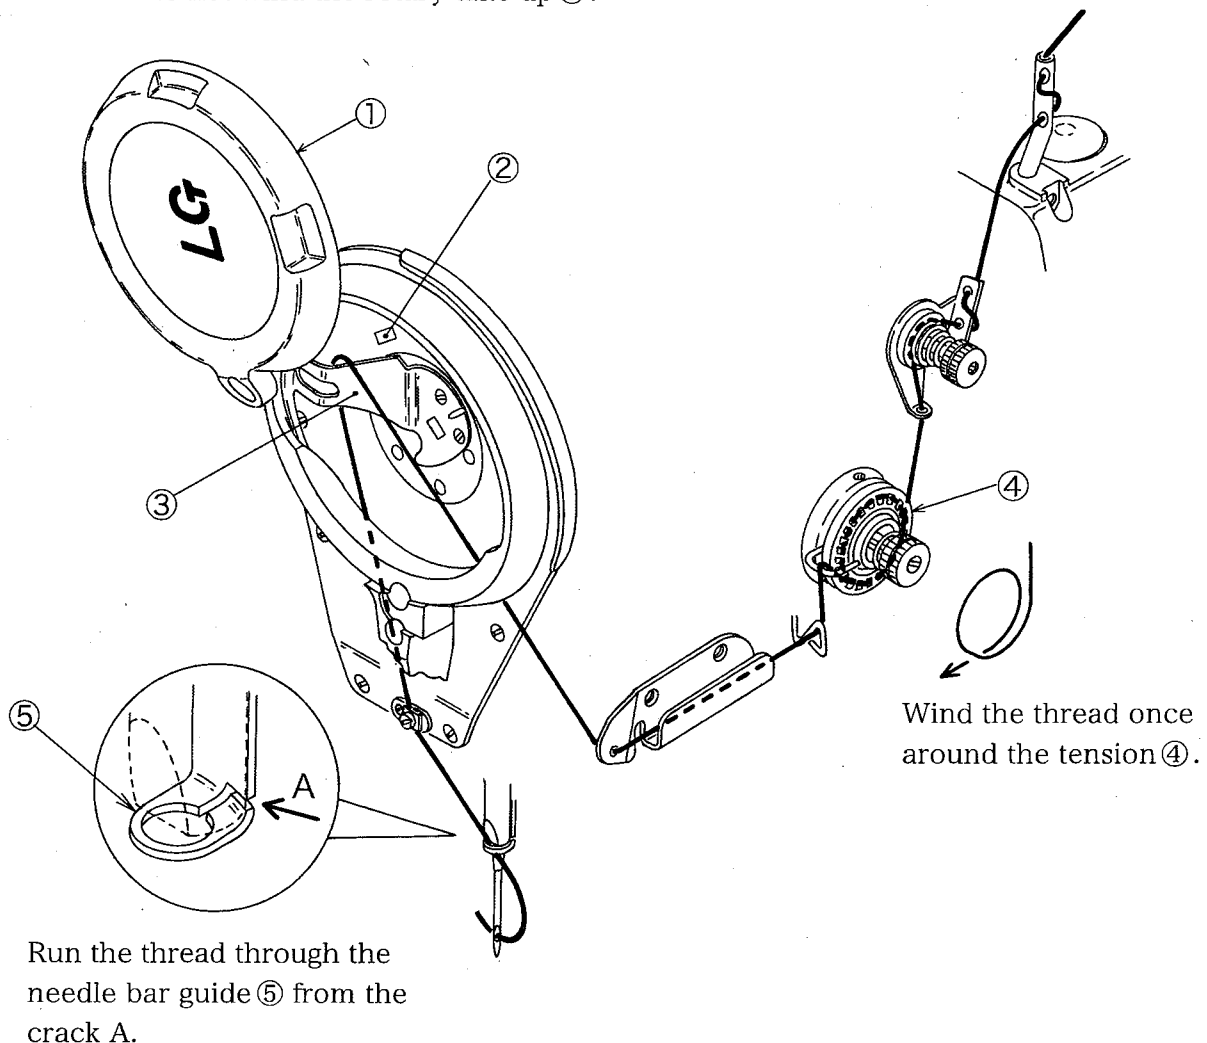

Fig.17
When operating the machine, be sure that the cover ① is closed. (See Fig.17.)
Be careful not to be injured with the thread cutter ② shown in Fig.17.
To thread the upper thread, see Fig.17.